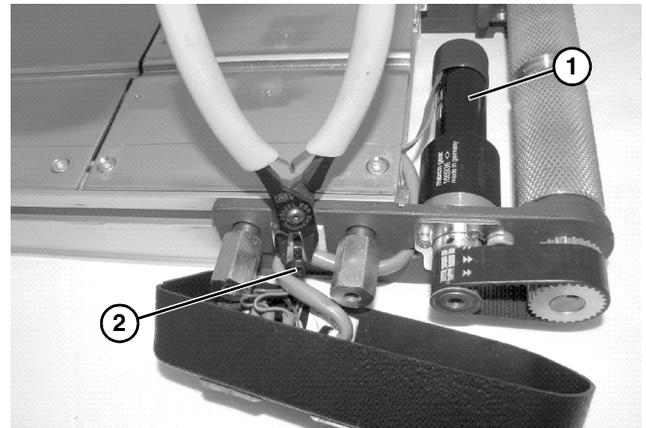

Figure 2
1. Remove existing motor (**Figure 2, item 1**) from conveyor (see “Motor Removal and Replacement” in your Installation, Maintenance, and Parts Manual).
2. Cut off zip tie (**Figure 2, item 2**) securing cover cable.